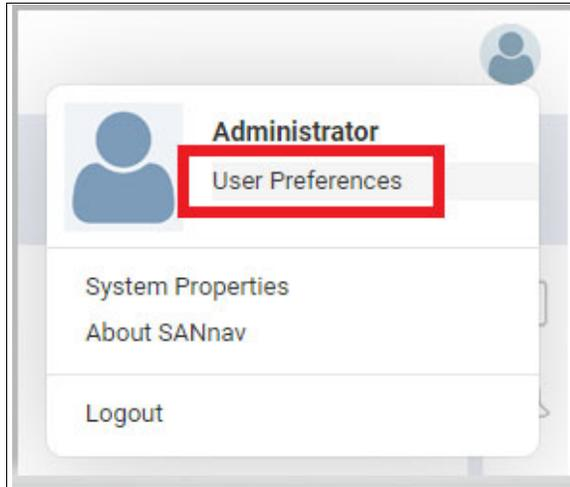

Figure 4-2 User Preferences
3. The first time a new user logs in successfully, a change password warning appears. You must change your password immediately before you can access SANnav. After you change your password, you are automatically logged out, and you must log in again by using the new password. You can change your password at any time by clicking the user icon in the upper right of the window and then click **User Preferences**, as shown in Figure 4-2.